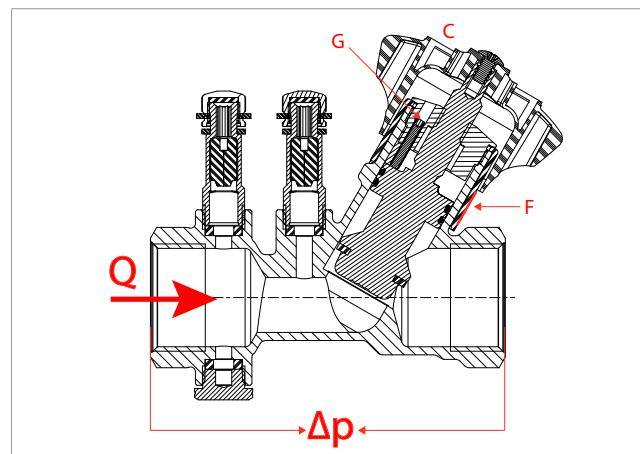

Fig. 2
R206B valves are equipped with a mechanism of mechanical memory of the opening (pre-regulation). This mechanism works by limiting the handle stroke (ref. C – fig.2) through a locking screw (ref.G – fig.2).
- Make the regulation of the R206B valve by means of the handle (ref.C-fig.2), on the regulation scale (ref. F – fig.1);
- Screw clockwise until it stops the locking screw of the pre-regulation (ref.G-fig.2) by using an Allen key of 1,5 mm for versions 1/2", 3/4", 1", 1 1/4" or 2 mm for versions 1 1/2", 2".